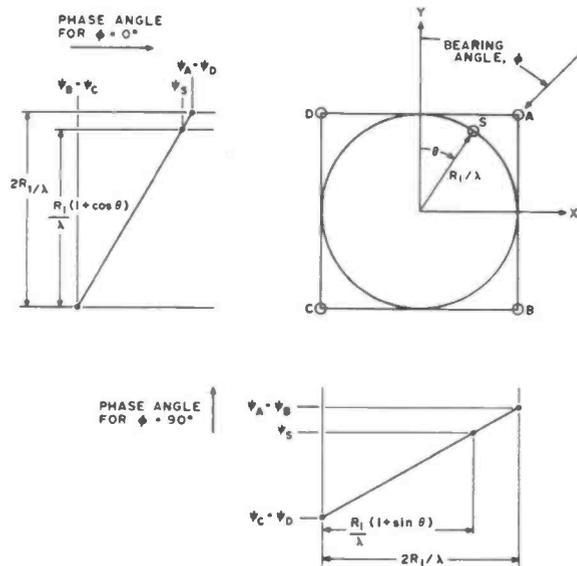

Figure 4: Top view of a four-antenna array showing the interpolation of phase angle between opposite sides of the array.
system of antennas A, B, C and D shown in Fig 4 and assume for the moment that the antennas are not coupled, i.e., there is no mutual impedance between them. The signals received by the four antennas can be summed electronically as shown in Equation (7), where K_A, K_B, K_C, K_D are gains and E_A, E_B, E_C, E_D are the rf voltages induced in the four antennas. We wish to find the value of the four gains which will create a voltage E_S equal to that induced in an antenna S located on the inscribed circle of radius R_1/λ at the angle θ shown in Fig 4.
If an incoming signal were arriving from the left or right in Fig 4, the phase at A and B would be equal, and the phase at C and D would also be equal. As long as the array is less than $1/2$ wavelength on a side, the phase at point S may be computed by interpolating linearly between the phases to the left and right as indicated in the plot directly below the sketch of the antenna array in Fig 4. See Equation (8).
For example, if S is midway between A and D, $\theta = 0^\circ$, $K_X = 1/2$, $(1-K_X) = 1/2$, and the phase is the simple average of the phases measured at A and D. If we now consider a signal originating from the top in Fig 4, the phase at S can be computed from that at A or D and that at B or C by interpolating along the Y direction. Referring to the graph to the left of the antennas in Fig 4 see Equation (9).
To evaluate the accuracy of the mixing given by (10), the instantaneous amplitude and phase of E_S was computed for antennas of different size with various bearing angles, ϕ . A typical result is shown in Fig 6 for an antenna of dimension $2R_1/\lambda = 1/4$ on each side. In Fig 6, the bearing angle ϕ is 0 (signal coming from top in Fig 4). The composite rf signal contains some amplitude modulation (about 18% at twice the commutation frequency) in addition to the desired phase modulation. Note that the phase modulation error relative to an ideal (physically rotating) antenna is very small (less than 8%).